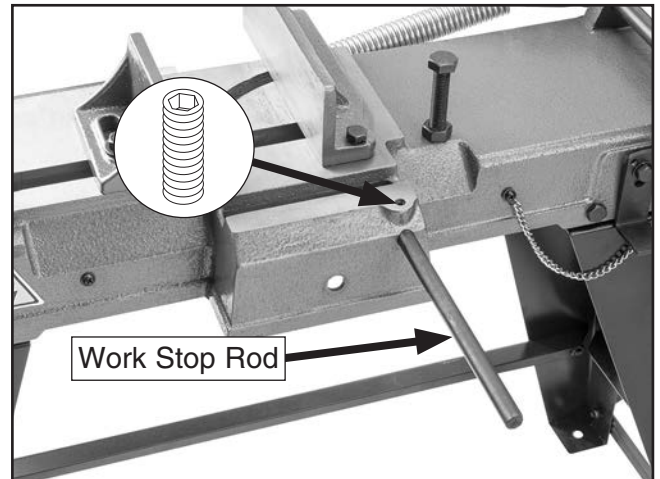

Figure 16. Work stop rod installed.
- Slide work stop rod into side of bandsaw, then lock it in place by tightening set screw shown in **Figure 16**.